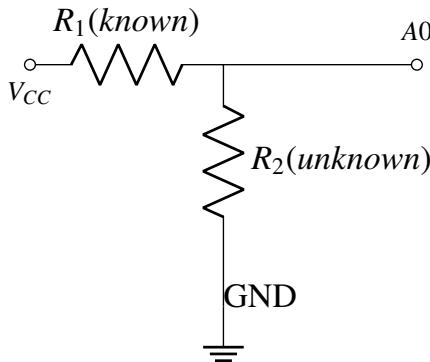

Fig. 15.1: Voltage Divider
- Let  $R_1$  be the known resistor and  $R_2$  be the unknown resistor. Connect  $R_1$  and  $R_2$  in series such that  $R_1$  is connected to GND and  $R_2$  is connected to  $V_{cc}$ . Refer to Fig. 15.1
12. The Ohm meter in this manual works on the principle of the voltage divider shown in Fig. 15.1.